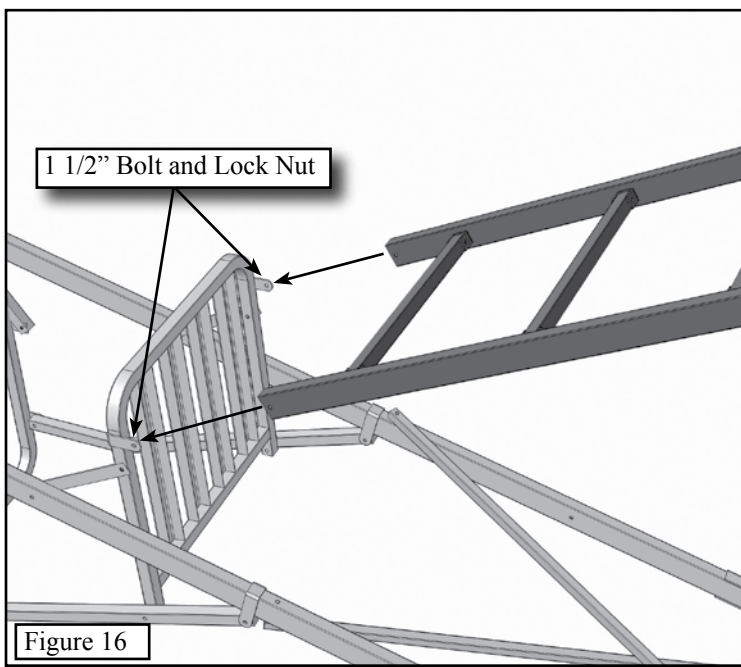

Figure 16
**Step 1.** Position the Ladder Assembly and the Support Assembly as shown in **Figure 16**. Slide the Ladder between the two mounting tabs and secure with two 1 1/2" bolts with lock nuts.